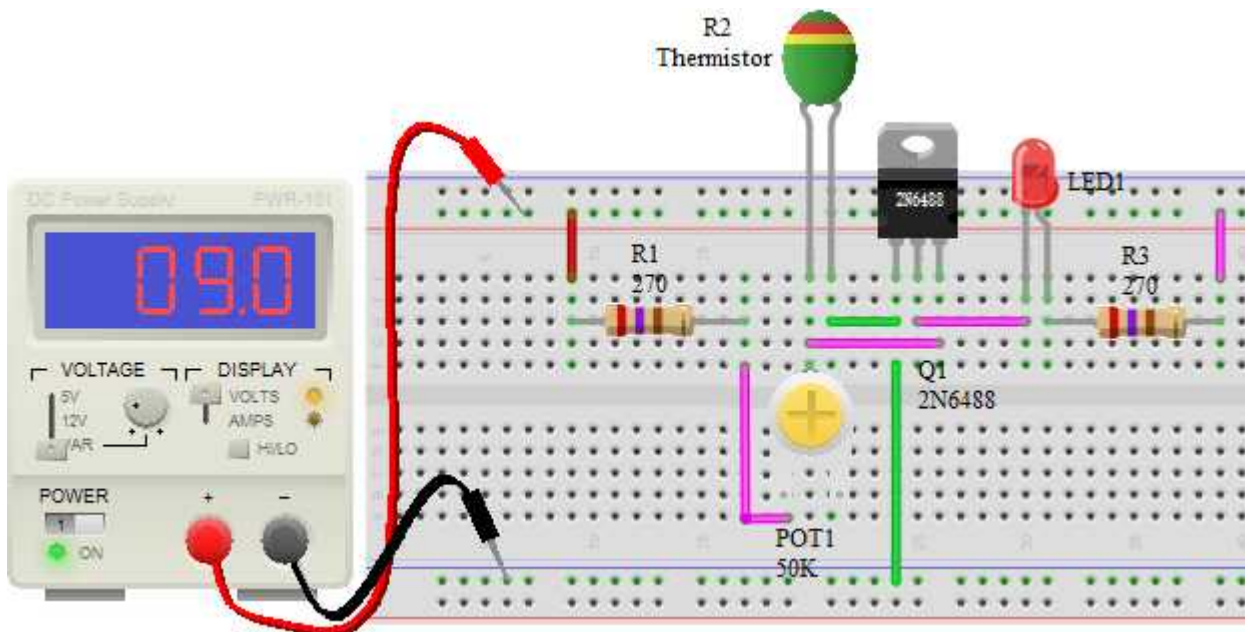

Figure 6-22: Cold activated switch circuit connection
1. Connect the circuit as illustrated in figure 6-22. Turn the potentiometer POT₁ fully clockwise (high resistance = 50KΩ). At this point the output should be off and the LED₁ is off.